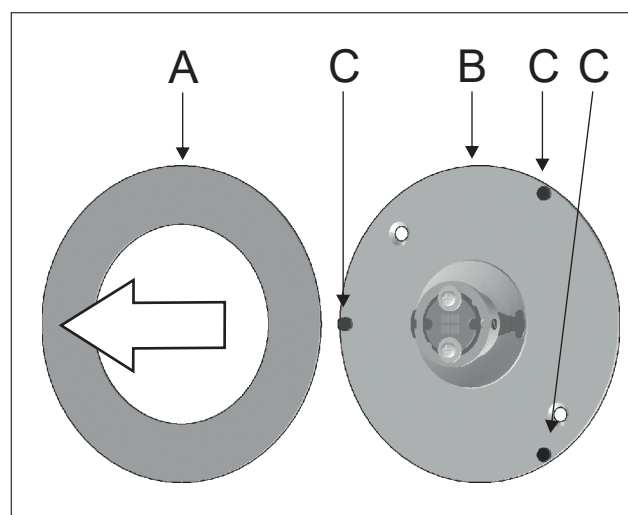

Figure 1
1 - Pull the metal base (A) to separate it from the mounting bracket (B). This base is holding by three magnets (C), there is no danger of breakage but be careful to don't lose them. Figure 1.